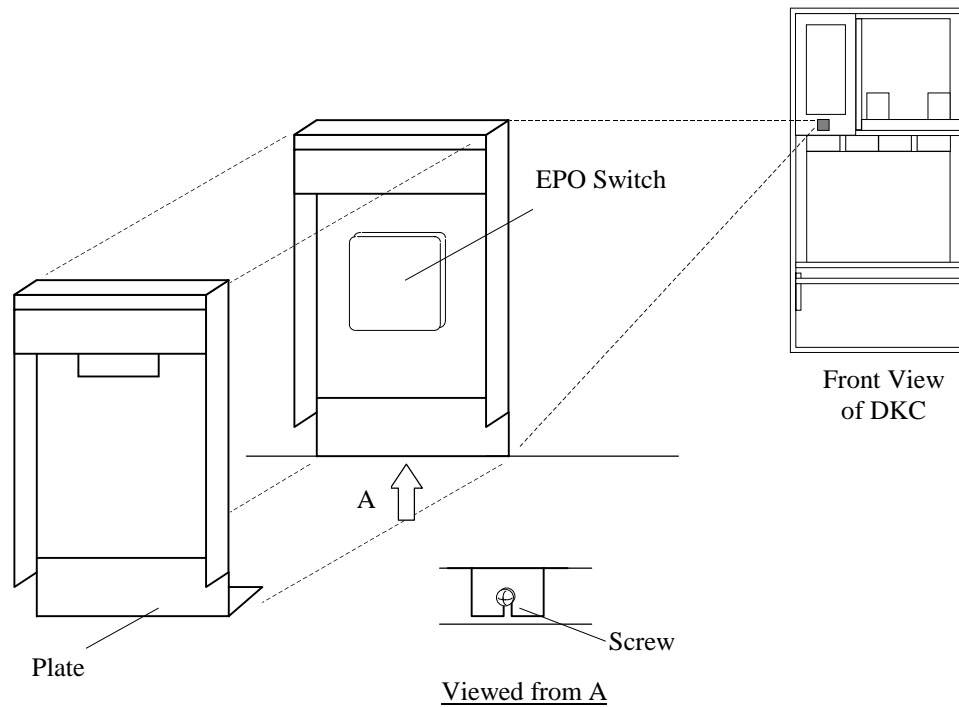

Fig. T2-2 Removal of Plate
- g. Attach the plate and fasten the screw. Refer to Fig. T2-2.